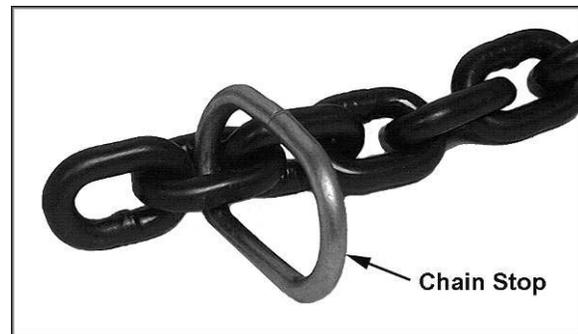

Figure 2
1. A chain stop must be attached to the second-to-last link on the slack end of the chain. See Figure 2 for an example.